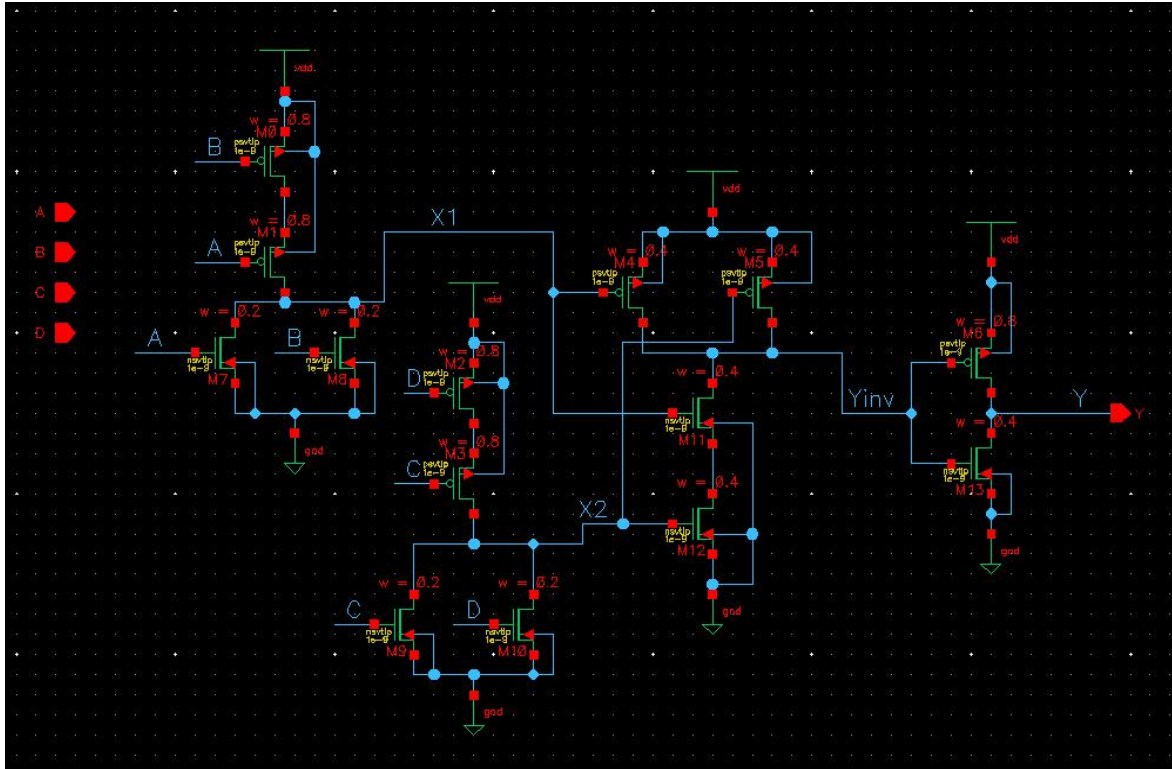

Figure 1: The schematic of a 4-input gate from the 65-nm cell library.
- Give **two** reasons for why it may be good idea to implement this logic function as shown in Figure 1 rather than the with one you drew in task b). (2 p)
**3. Logical effort, gate sizing** Again consider the schematic shown in Figure 1 above.
- a) Derive values for the intrinsic delay,  $p$ , and the logical effort,  $g$ , for the **entire** cell, the schematic of which is shown in Figure 1, with the transistor sizes shown in the schematic. (5 p)
- b) Assume that the cell from Figure 1 is to be scaled for optimal delay when loaded with a capacitance of  $28.8 C_{in}$  or  $\frac{144}{5} C_{in}$  where  $C_{in}$  is the input capacitance for each of the inputs A, B, C, D in Figure 1. How should each gate be scaled? What is the resulting delay with this scaling? (5 p)
Label all nodes clearly. The layout should correspond exactly to the schematic in Figure 1. Use shared drain areas for output nodes whenever possible.